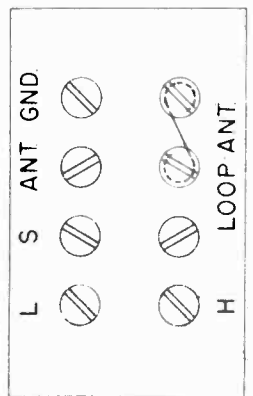

FIGURE 1
1. Remove the signal generator lead from the 6SA7 grid and connect it to the radio antenna terminal through the .00025 mid. capacitor. The link on the antenna terminal board must be set in the ANT position as shown in Figure 1.